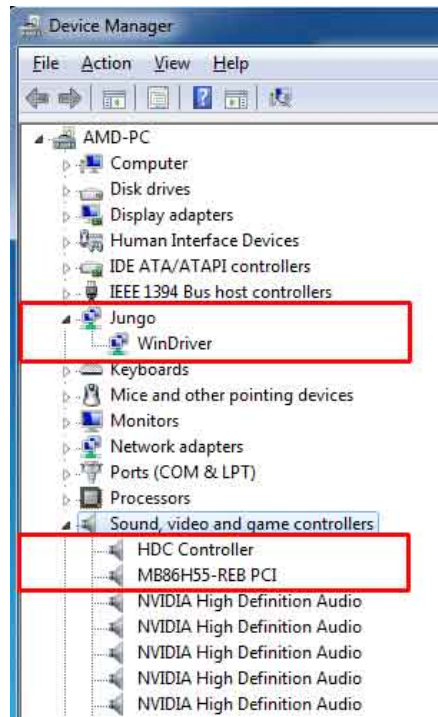

Figure 1-6: Device Manager
Step 9: Check the device manager in the Windows control panel to ensure the driver (MB86H55-REB PCI and WinDriver) has been properly installed (**Figure 1-6**).